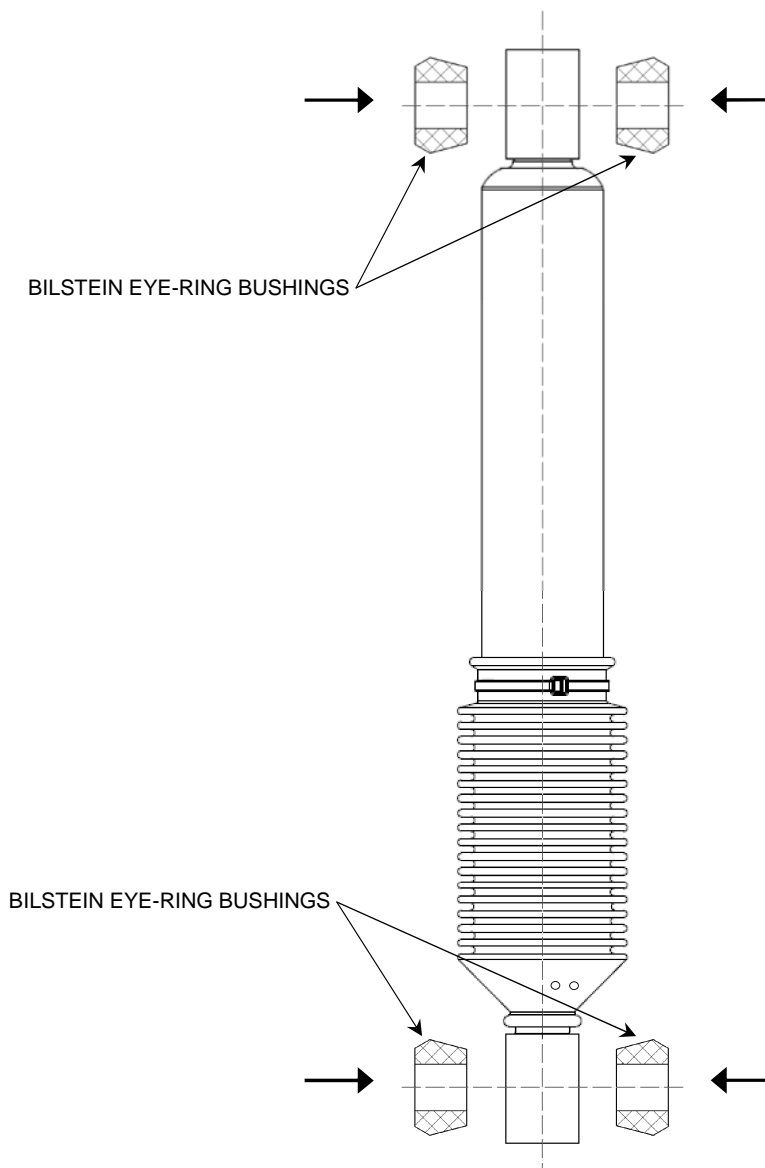

Figure 2
- C. Install the Bilstein Shock Absorber in the original location with the new supplied eye ring bushings and attach the upper and lower mounts. Please refer to Figure 2 for the correct orientation of the eye-ring bushings.